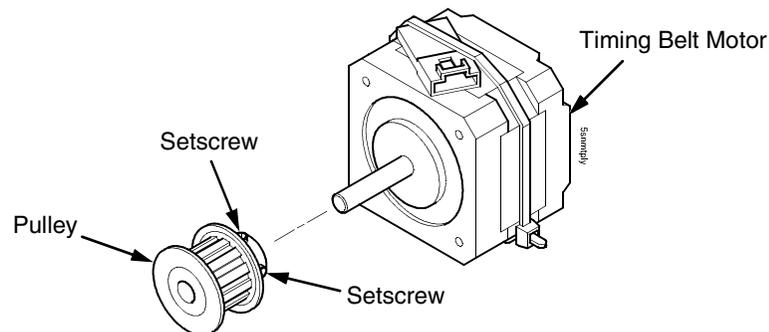

Figure 99. Removing the Timing Belt Motor Pulley
5. Loosen the two setscrews on the motor pulley and remove the pulley. Unplug the motor cable, if necessary. (See Figure 99.) Go to step 6.